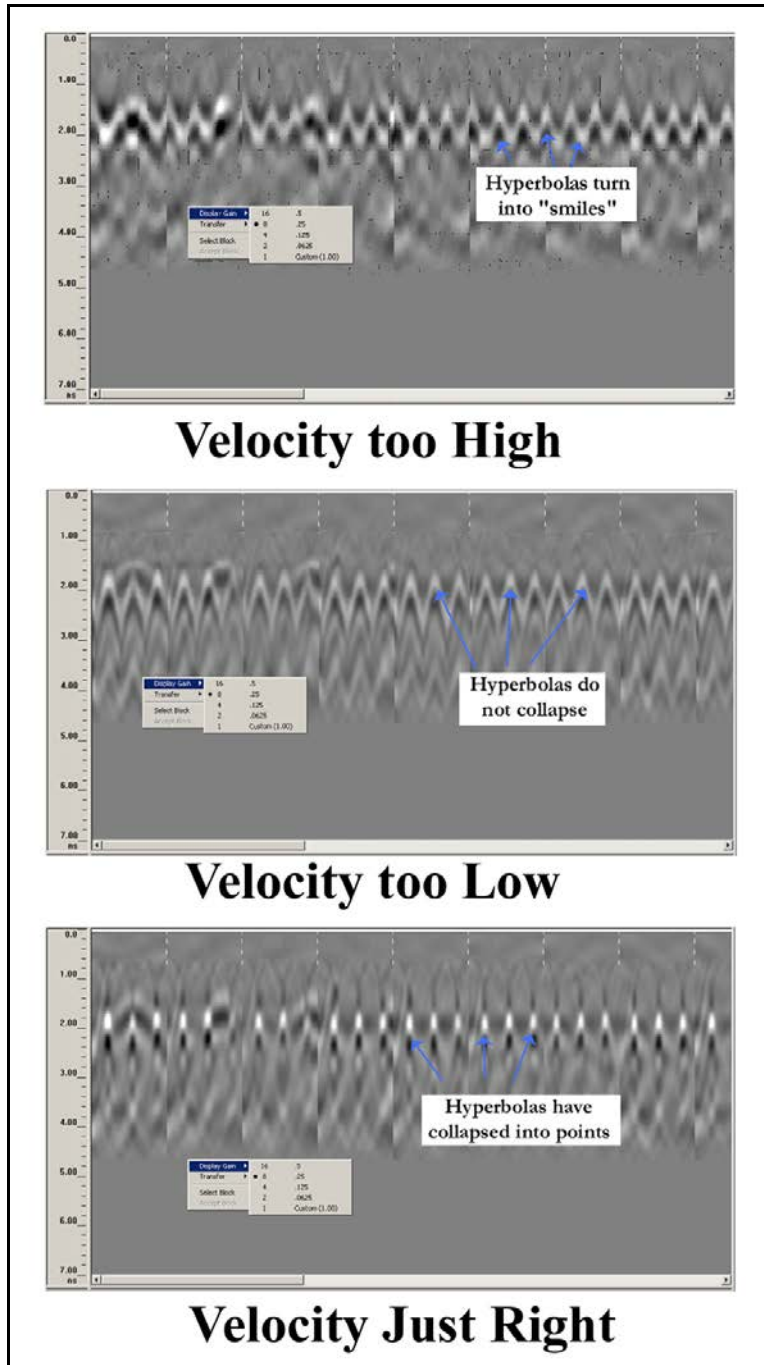

Figure 65: Migration Comparisons.
- 2** Assess migration. Compare your data to Figure 65. If the velocity needs adjustment go back to the raw data file and re-run the processing.